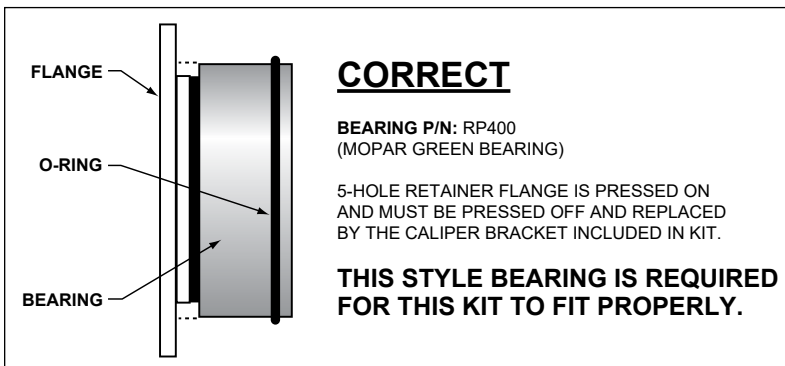

Figure 1. Press Fit Bearing Configuration
- It is important to verify which bearing you have. There are two types of “Green Bearings” being supplied by axle manufacturers. Your setup should look like Figure 1, otherwise you have the wrong kit.
**NOTE:** Before any tear-down or disassembly begins, it is important to verify which bearing you have. There are two types of “Green Bearings” being supplied by axle manufacturers. Your setup should look like Figure 1, otherwise you have the wrong kit.
- Determine that the appropriate "Green" non-adjustable press-on flange bearing has been installed on the axle, as shown in Figure 1.